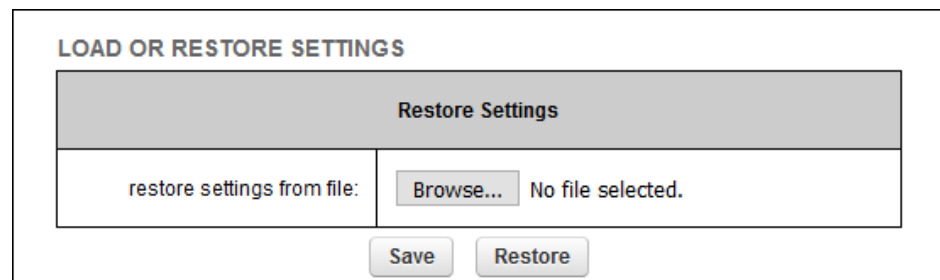

Figure 60. Configurator GUI (LOAD OR RESTORE SETTINGS dialog)
- The **LOAD OR RESTORE SETTINGS** dialog will be shown (Figure 60 \(page 136\)).